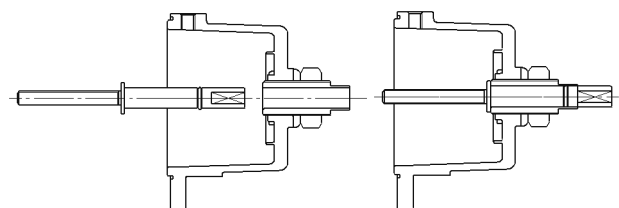

Fig.27
(4) Insert the spindle into the stopper through the bottom of the unit till the guard will contact the stopper (Fig.27).